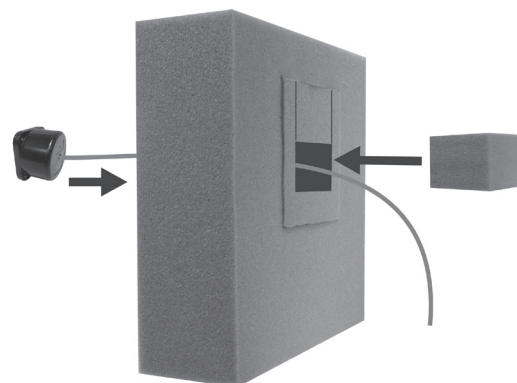

Figure 20. Placement of DM5 Microphone and foam in the foam enclosure
2. Remove the small portion of the provided foam microphone enclosure, resulting in the two pieces of foam shown in **Figure 20**.
3. Insert the DM5 Microphone cable through the hole in the foam enclosure, and place the microphone into the hole as shown in **Figure 20**.
4. Insert the removed piece of foam back into the hole in the foam enclosure to fit snugly against the back of the microphone, as shown in **Figure 20**.